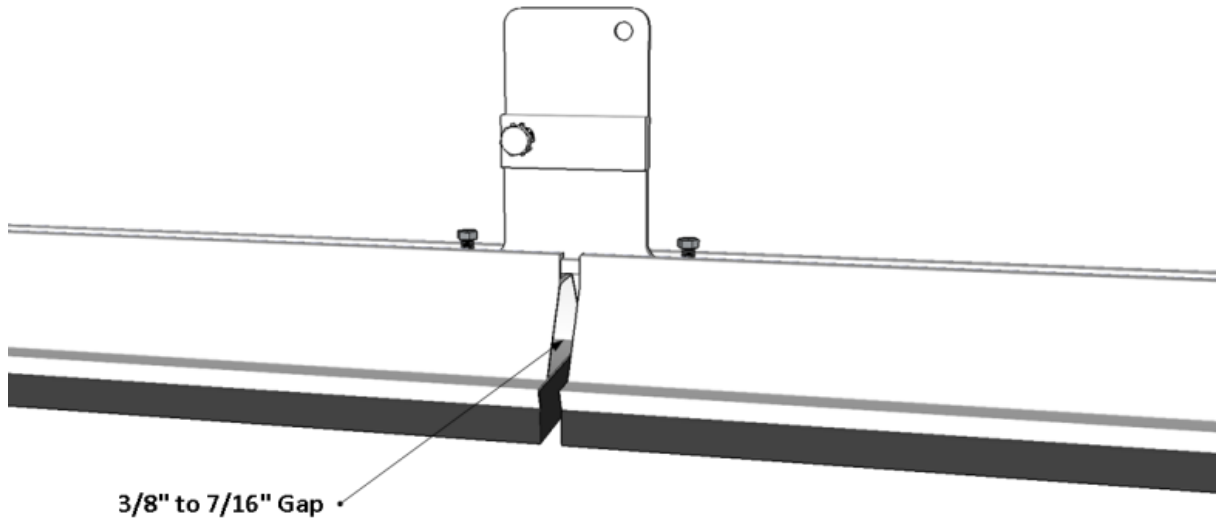

Figure 6
Step 3: Connect Two Rails – Figure 6